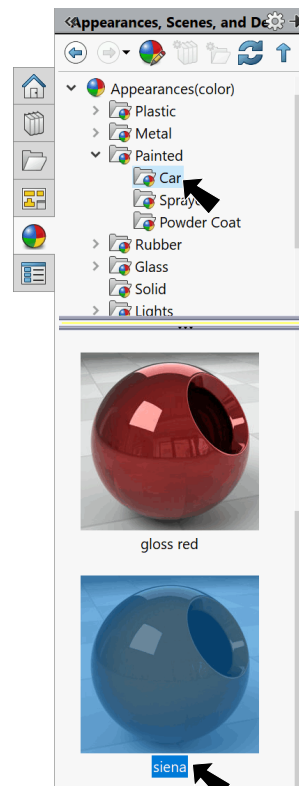

Fig. 17
Step 2. In the Appearances Task pane, expand **Painted**, click **Car** and in the lower pane select **siena**, **Fig. 17**.